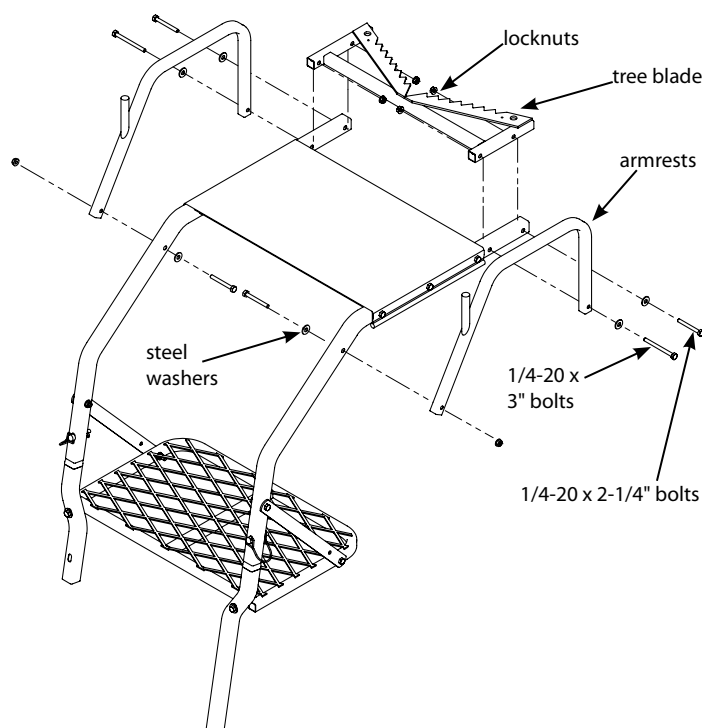
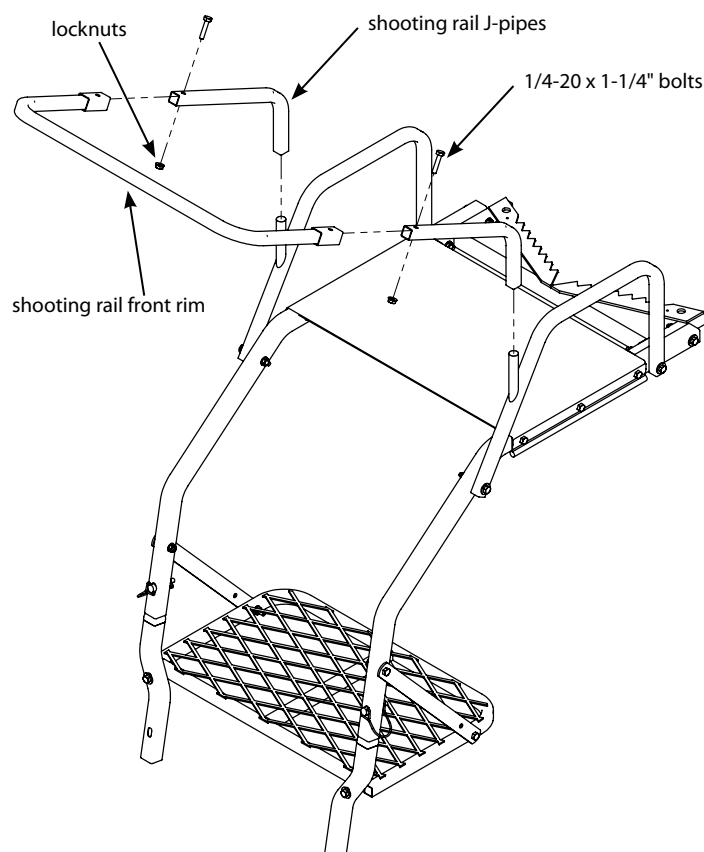

Figure 4
Figure 5
4. Attach the tree blade weldment (SL67) to the rear end of ladder side rails and (2) armrests to the ladder side rails using (2) provided 1/4-20 x 2-1/4" bolts, (2) provided 1/4-20 x 3" bolts, (4) locknuts and (6) steel washers. **SEE FIGURE 4. Tree blade will be a tight fit in order to correctly span the seat properly. You must now tighten all nut & bolt assemblies. Be sure not to over tighten or crush tubing when tightening!**
5. Insert (2) shooting rail J-pipes (410042) into the shooting rail front rim (410041) and secure together using (2) provided 1/4-20 x 1-1/4" bolts and locknuts. **Tighten securely. Be sure not to over tighten or crush tubing when tightening.**
6. a. Attach the removable shooting rail by setting rail down over studs provided on armrests. **SEE FIGURE 5. Lubrication is recommended to prevent binding and noise.**
b. Attach the (2) provided 9" and (1) provided 18" camo foam pads to the armrests and shooting rail by wrapping around tubing and attaching Velcro together.